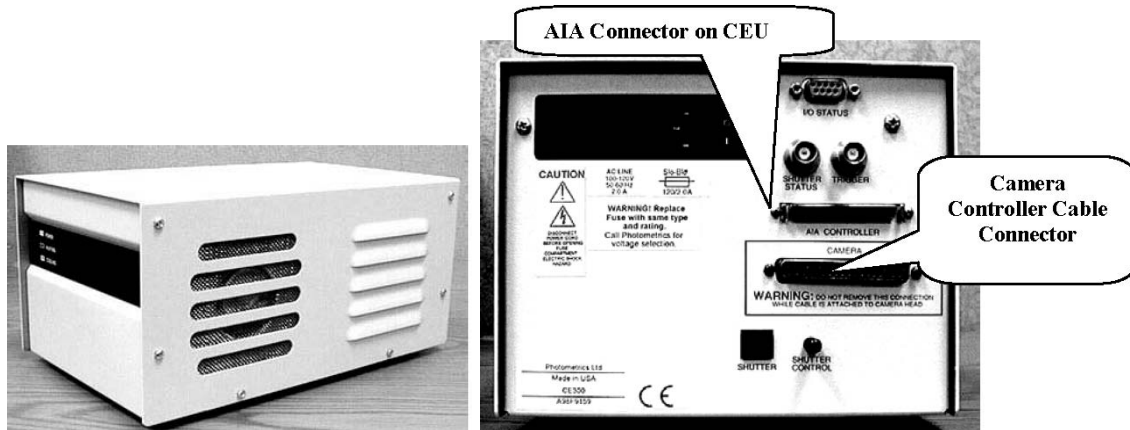

Figure 3.6. VersaDoc MP 5000 and 5000 CEU.
1. Familiarize yourself with the camera electronics unit [CEU]. See Figure 3.6 below: